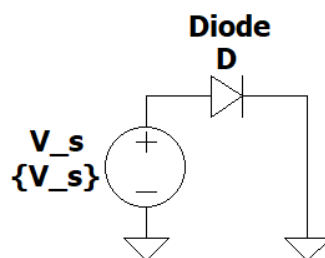

Figure 1.1 I-V Characteristics
- Connect the Circuit as shown in Figure 1.1.